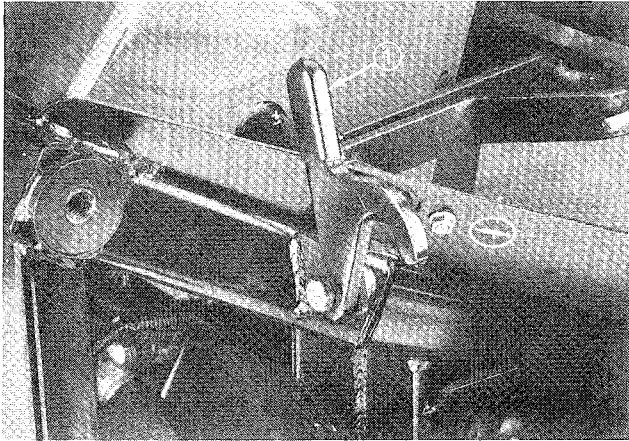

**Figure 22**
**Brake Pedals (Fig. 22)** – Two foot pedals at the lower left operate individual wheel brakes for turning assistance, parking and to aid in obtaining better sidehill traction. Locking pin is for parking.
**Parking Brake Latch (Fig. 22)** – A knob on the left side of console actuates parking brake lock. To engage parking brake, connect pedals with locking pin, push down on both pedals and pull parking brake latch out. To release parking brake, depress both pedals until parking brake latch retracts.
**Steering Wheel Tilt Lever (Fig. 22)** – Lever on left side of console allows steering wheel to be adjusted for operator comfort.